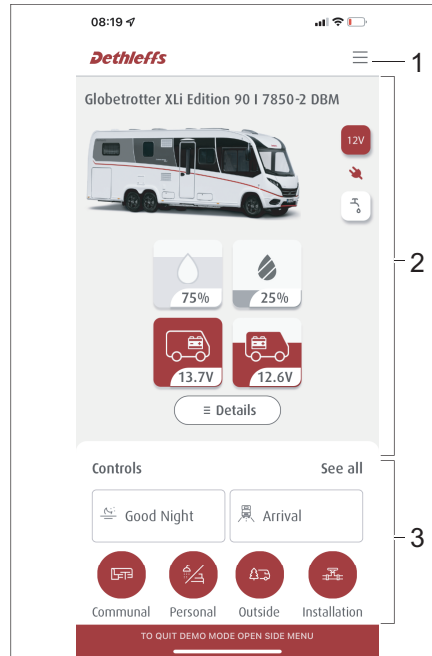

Fig. 279 Dethleffs Connect App design
- Menu section (Fig. 279,1)
- Vehicle information (Fig. 279,2)
- Handling and scenarios section (Fig. 279,3)